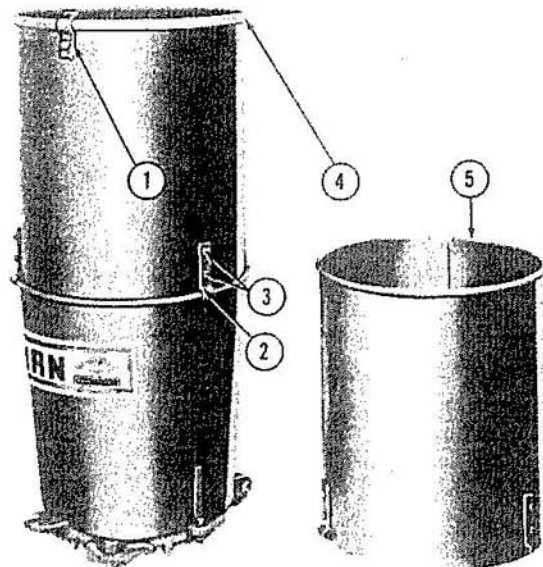

Figure 10
1. Loosen the two bolts (3), Figure 10, on each of the three clamps (2), install the extension as shown, and tighten the clamp bolts (3), securely.
2. Remove the seed hopper cover (4), Figure 10, hinge and spring lock (1) from the top of the hopper and attach them to the top of the extension with the bolts, washers and nuts provided.